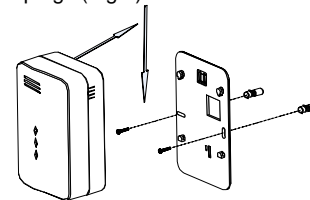

Fig. 3
3. Using a 3/16-inch (5 mm) drill bit, drill two holes at the marks and insert wall plugs (Fig 3).
- Line up the side slot of the bracket and the detector. Push the detector onto the mounting bracket until a click is heard (see arrow direction, Fig 3).